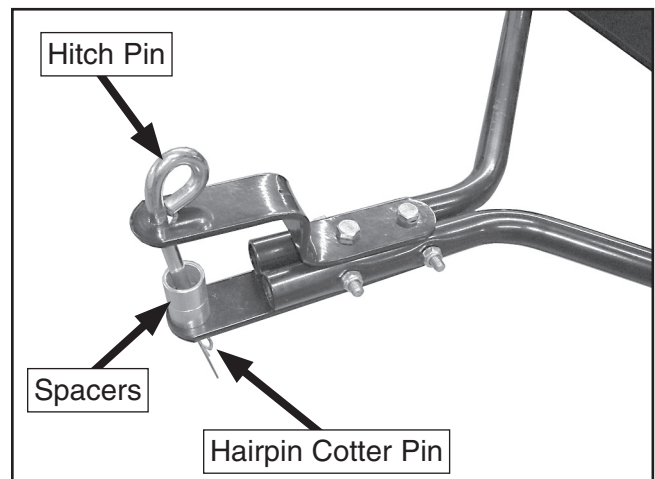

Figure 8. Hitch Pin.
4. Insert the hitch pin and the hitch spacers, and secure them with a 3mm hairpin cotter pin, as shown in **Figure 8**.